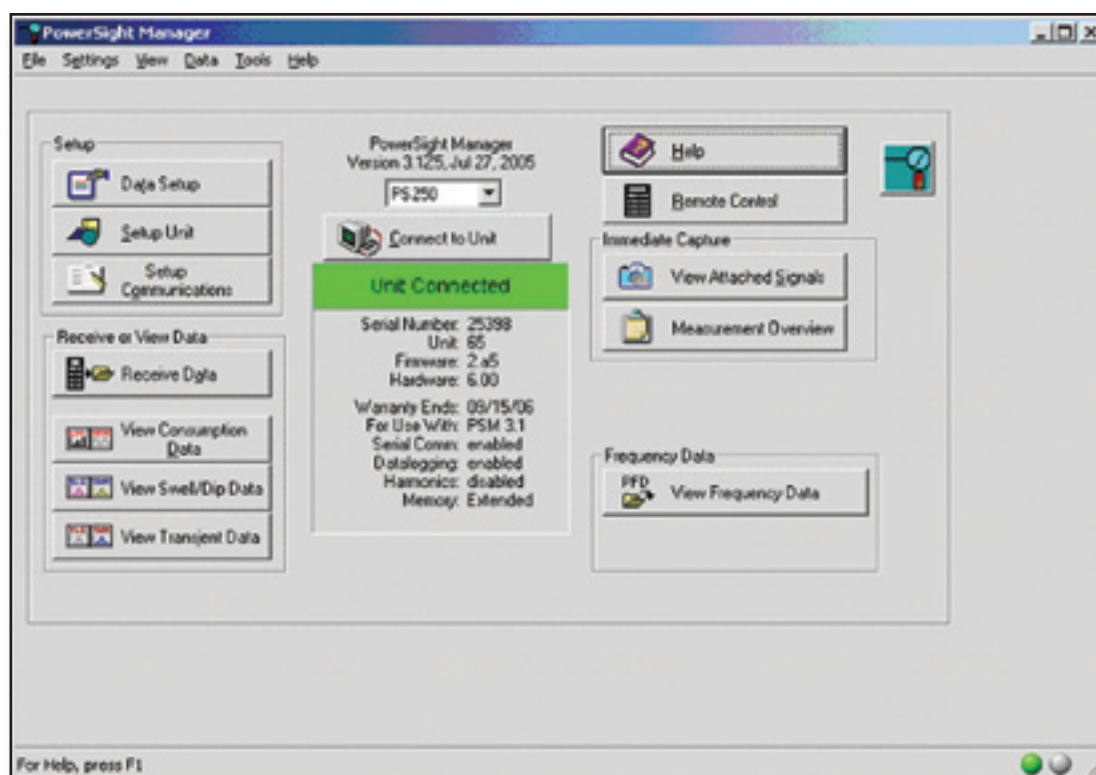

Figure 3—The initial screen of the PowerSight Manager software that displays data logged by the PS250 power-quality monitor.
A personal computer (PC) is required for detailed reports and graphic displays of line voltage, current, and power consumption. The PS250 comes with a software package called *Power Sight Manager* (figure 3) that allows